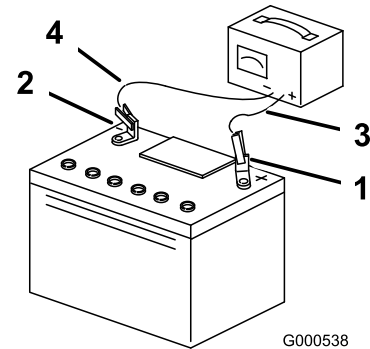

Figure 41
3. When the battery is fully charged, unplug the charger from the electrical outlet, then disconnect the charger leads from the battery posts (Figure 41).